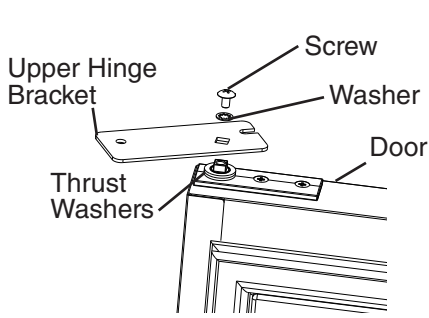

Fig. 11
- 7) While preventing the upper hinge bracket from rotating, remove the upper hinge bracket from the spring cartridge. See Fig. 11. Note which side of the upper hinge bracket is facing up.